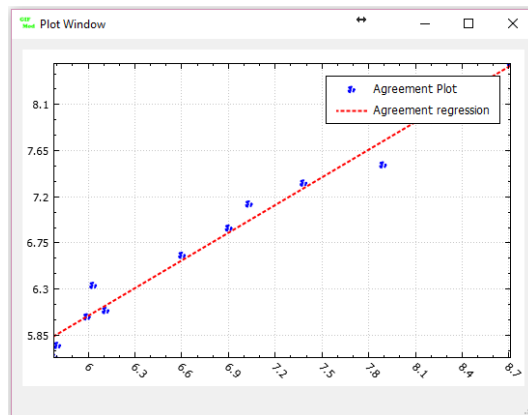

Figure 5: Agreement plot
- **Agreement plot:** In the **Project Explorer**, right-click on **Inverse Modeling**→**Observations**→*DO* and then click on **Agreement plot**. The model-observed agreement graph (Figure 5) will appear.